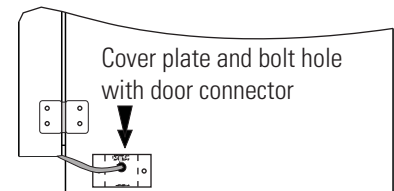

Figure 1-9. Bolt Hole
7. Thread one 1/4 x 20 bolt and washer included with the stacking brackets, into the hole behind the cover plate. Do not tighten. Refer to Figure 1-9.